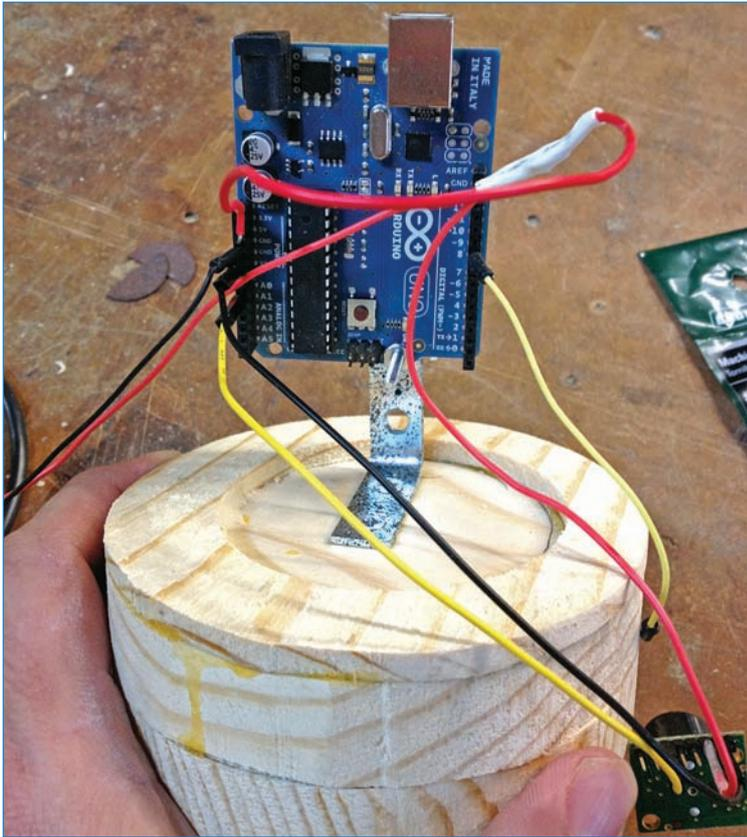

FIGURE 9.20 Attaching the Arduino.
11. Attach the Arduino as shown in Figure 9.20. I used a hardware store L-brace to connect the Arduino using a #4 machine screw. How do you connect a square to the inside of a cylinder? Don't— simply connect it to one end!